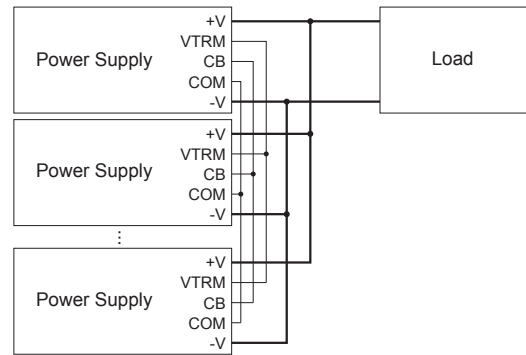

Fig.2.2 Example of parallel connection
■ Units can be used in parallel operation by connecting them as shown in Fig.2.2.